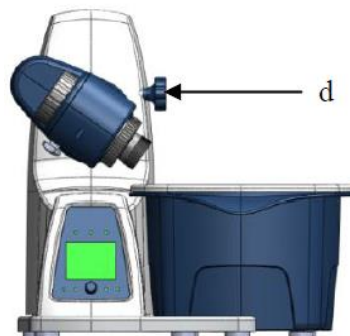

Figure 8
- Set the drive at an angle of approx.30° (Figure 8)